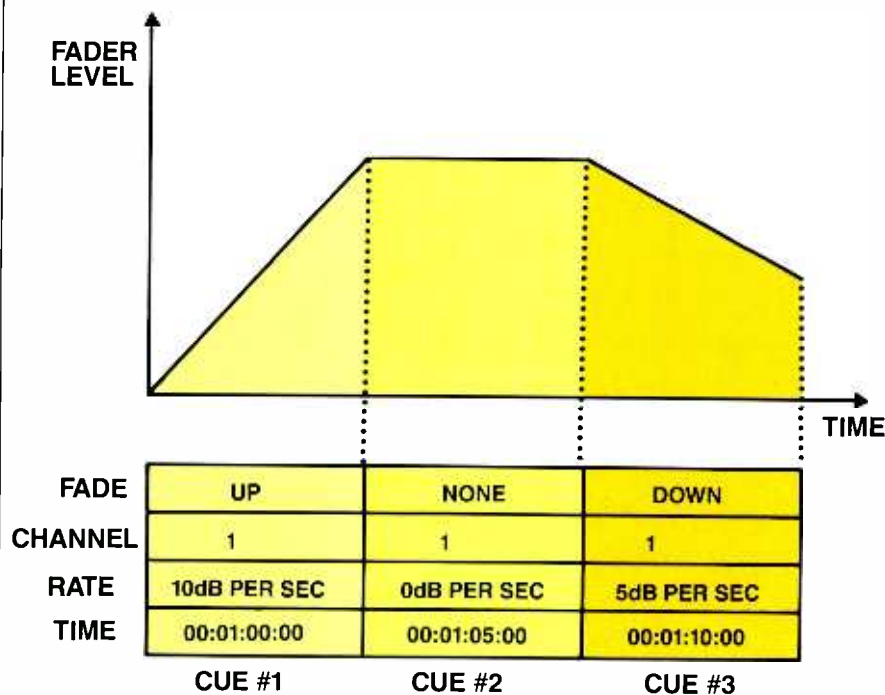

Figure 2. Fader automation via MIDI Time Code.
- Fade down Channel 1 at 5dB per second starting at 00:01:10:00, etc. (See Figure 2.)